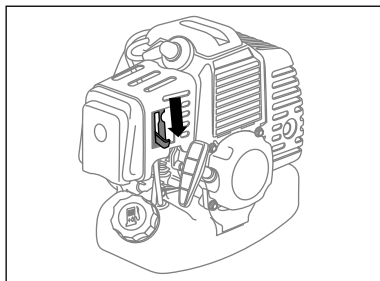

fig. 13
- Press the gas throttle lever on the control lever and secure it with the retainer (fig. 13).
- Move the air valve lever downwards, then press the gas throttle lever to unlock it (fig. 13).